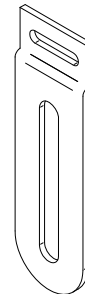

Figure 2: Short Vertical Offset
3. Due to the shallow depth of the front face, as compared to the MCS-Epic console box series, it is necessary to replace the standard Vertical Offsets with a set of shorter Vertical Offsets (1 set is included with the MCS-Ergo-Hybrid console box). The radio/radio head in the lowest position on the box will require the Short Vertical Offset. Follow instruction sheet INST-3 for assembly and installation instructions, substituting the short Faceplate Vertical Offsets (see **Figure 2**) with the Vertical Offsets that come with Gamber-Johnson Faceplate Kits.
It is recommended that if using the MCS-MICPLT kit to place the finished assembly in the lowest position on the MCS-Ergo-Hybrid console box. By assembling the kit in this fashion you be able to avoid using the short Faceplate Vertical Offset (**Figure 2**).
ASSEMBLING MCS FACEPLATES TO CONTROL HEADS AND INSTALLING IN MCS CONSOLE BOXES (Refer to figures 2 & 3).
1. Install the faceplates on each control head as shown in figure 2. Adjust the faceplates so the mounting holes in the sides of the control head line up in the slots of the faceplate vertical offsets and so the desired amount of the control head will extend from the console. Make sure to allow enough room underneath for any connectors that may be required. Test the fit of each control head, the tallest heads may need to be installed near the higher end of the console.
3. Attach the MCS Console Box holddowns to the sides of the console box and over faceplates with (6) 10-32 x .38 Phillips head machine screws.